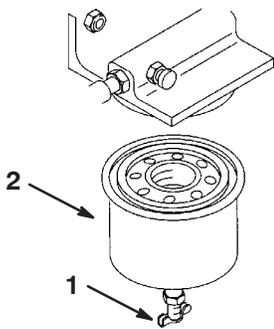

Figure 28
4. Open the drain valve (Fig. 28) and drain the fuel from the fuel filter into a suitable container and dispose of it properly.
- Remove the fuel filter with a filter wrench (Fig. 28).